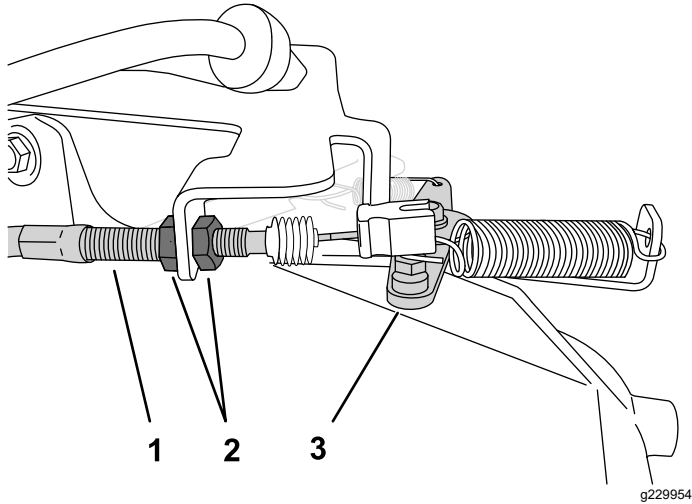

Figure 41
- At the throttle cable housing, loosen the forward jam nut and tighten the rear jam nut to increase the low idle (Figure 41).